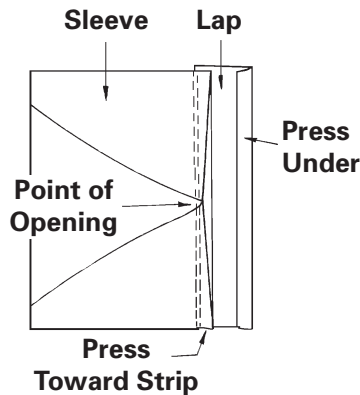

Fig. 11-4
8. Press the seam allowances toward the continuous lap. Press under $\frac{1}{4}$ inch (6 mm) on the remaining long edge of the strip. (Fig. 11-4)